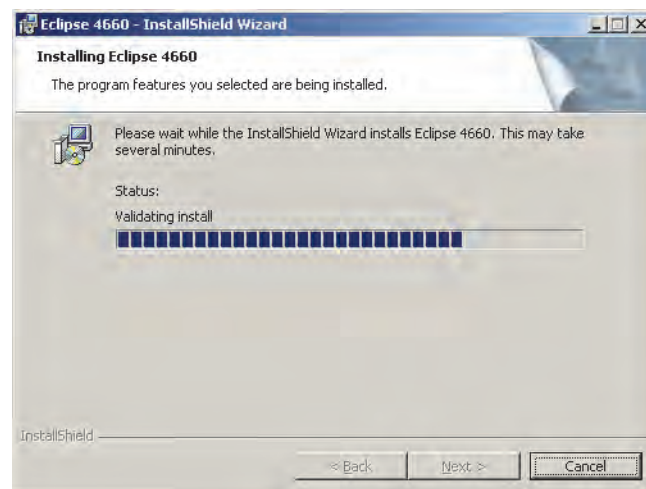

Figure 3.19. Installation progress
8. The installation progress is indicated by the status bar on the next screen (Figure 3.19).